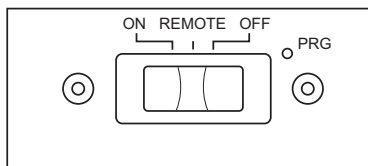

Figure 52 - Remote Selector Switch in ON Position
10. Wait one minute and switch selector switch to the ON position to light burners (see **Figure 52**). When using in the ON position (without remote) burners will light on high. There is no adjustment to the flames without using remote.
When batteries in receiver are low, no acoustic signal will be given when ON/OFF button is pressed. If batteries in receiver are low, fireplace can be switched on manually by moving remote selector switch to ON (see **Figure 52**).